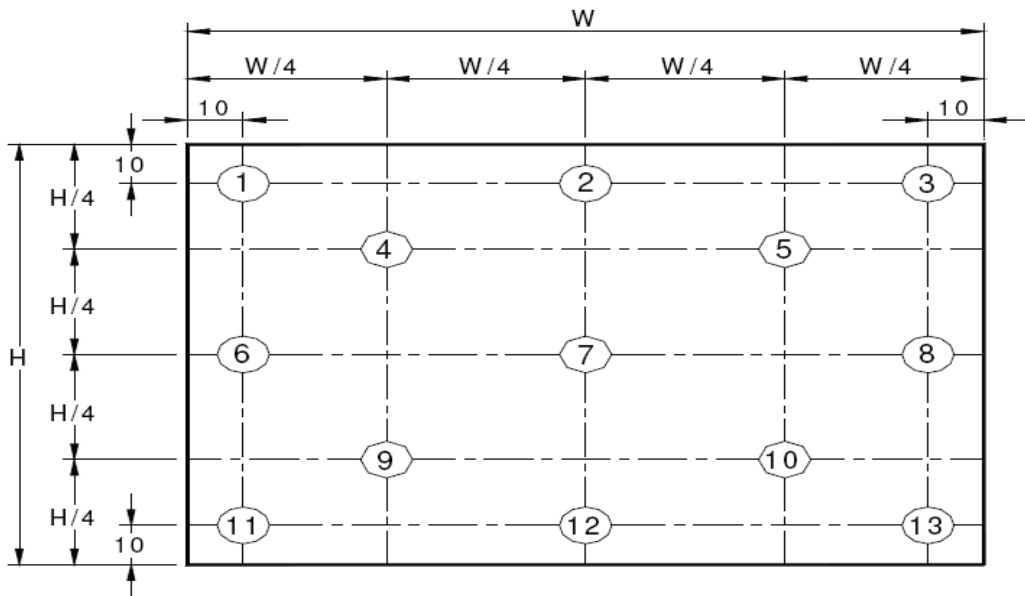

Figure 9. Uniformity Measurement Locations (13 points)
- The White luminance uniformity on LCD surface is then expressed as :  $\Delta Y = \text{Minimum Luminance of 5(or 13) points} / \text{Maximum Luminance of 5(or 13) points.}$ (see Figure 8 and Figure 9).
The White luminance uniformity on LCD surface is then expressed as :  $\Delta Y_5 = \text{Minimum Luminance of five points} / \text{Maximum Luminance of five points}$  (see Figure 8) ,  $\Delta Y_{13} = \text{Minimum Luminance of 13 points} / \text{Maximum Luminance of 13 points}$  (see Figure 9).